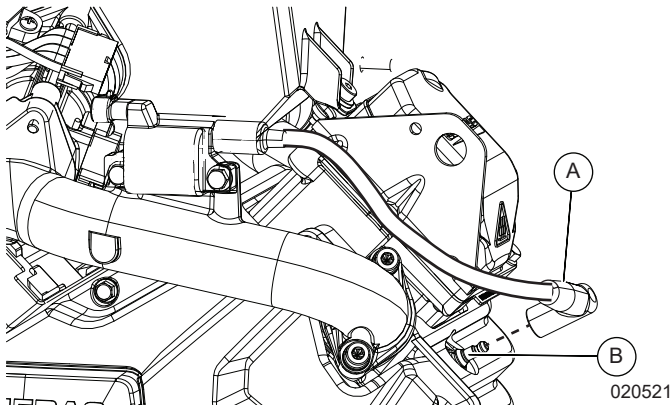

Figure 7-13. Install spark plug wires
2. Fasten coils to crankcase using four fasteners (C) and tighten to 5.9–7.4 ft-lb (8–10 Nm).
3. See Figure 7-13. Install spark wires (A) to spark plugs (B).